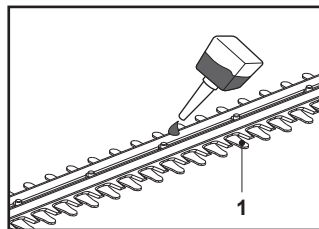

Fig. 10
9. Lubricate the internal surfaces of the blade if the cutting device (blade) (1) overheats during operation (Fig. 10).
1. Keep the cutting device (blade) (1) clean and free of debris. Remove trimmings with a brush.
2. Apply a small amount of suitable lubricant on the cutting device (blade) to retain a good cutting performance (Fig. 10).